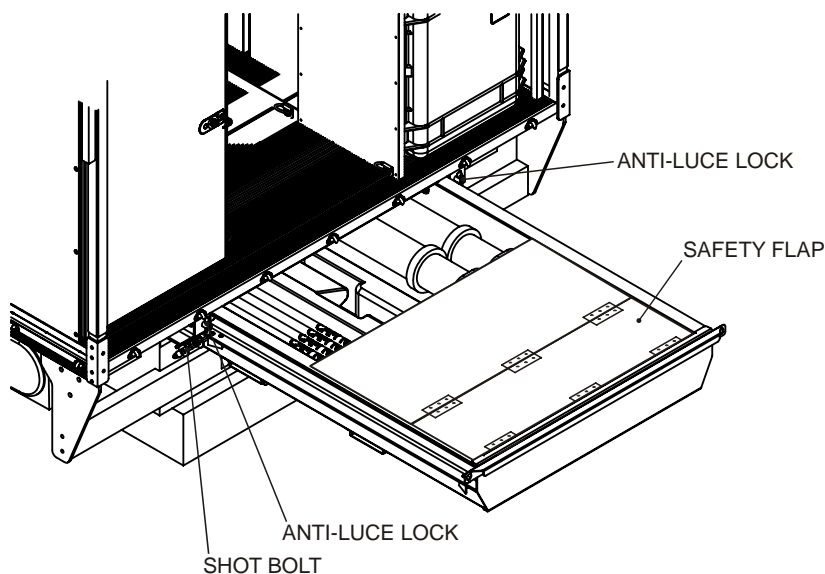

Figure 10 Under Tray Stowage
16. The under tray stowage module is located at the rear and underneath the vehicle (Figure 10). The tray provides stowage for camouflage net poles, Clark Masts and Omni Directional Antennas. It is mounted on rollers and can be pulled out halfway for ease of access. The spring loaded shot bolt and anti-luce fittings provide the locking mechanism. A two fold flap fitted at the rear of the tray provides a safety guard for the tray for personnel closing the tray and can be utilised as an administration table.